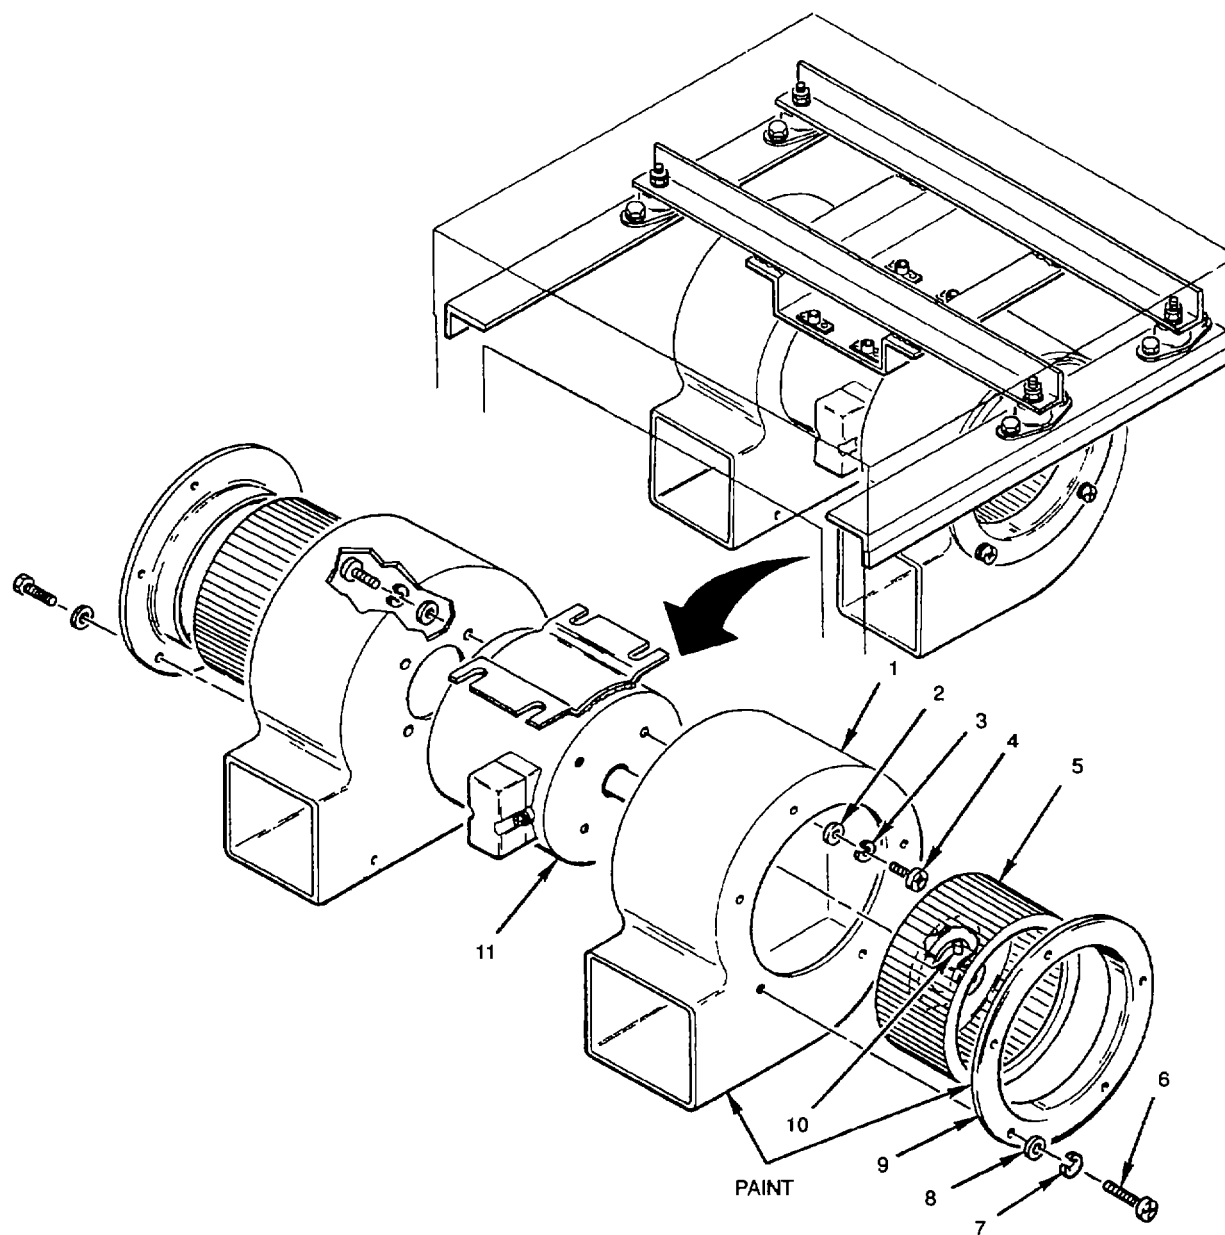

Figure 4-37. Evaporator Fan and Housing Assembly
- (1) Disconnect air conditioner input power at source, and
- (2) Remove evaporator motor and housing assembly (paragraph 4.46)
- a. Inspect fan housing assembly (1) for loose or missing hardware or other visible damage. Replace if damaged (see fig 4-37)
- b. Inspect fan (5) for loose or missing hardware, broken blades, or other visible damage. Replace if damaged.
- a. Remove five screws (6), lockwashers (7), and flat washers (8) securing inlet flange (9) to fan housing assembly (1).
- b. Remove flange (9) from fan housing assembly (1).
- c. Loosen set screw (10) securing fan (5) onto motor (11) shaft.
- d. Remove fan (5) from fan housing assembly (1).
- e. Remove four bolts (4), lockwashers (3), and flat washers (2) securing fan housing assembly (1) to motor (11).
- f. Remove fan housing assembly (1) from motor (11).